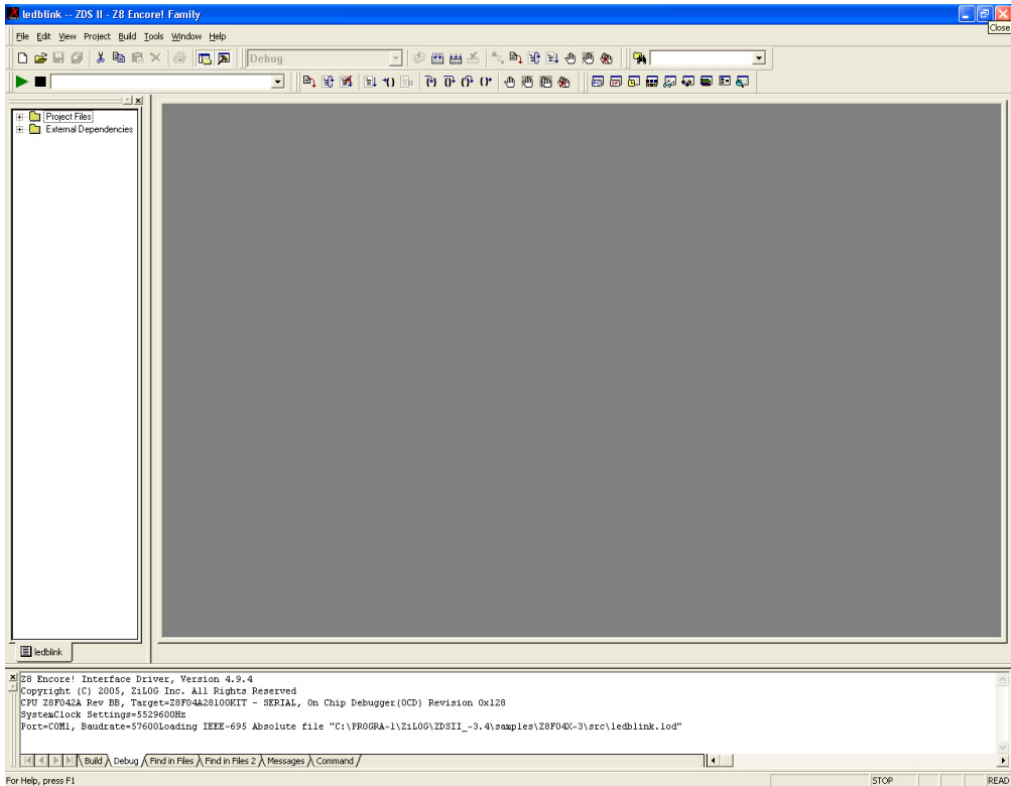

Figure 4. ZDS II Active Screen
11. Click **Go** icon  to start the program (see Figure 4 on page 10).